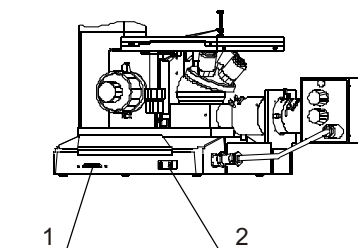

Figure 2
- 2) Turn on the light with the power switch, see figure 2. If the light does not appear to be ON, check the brightness control to see if it's on a sufficiently low setting. Then adjust the brightness control until image can be observed comfortably.